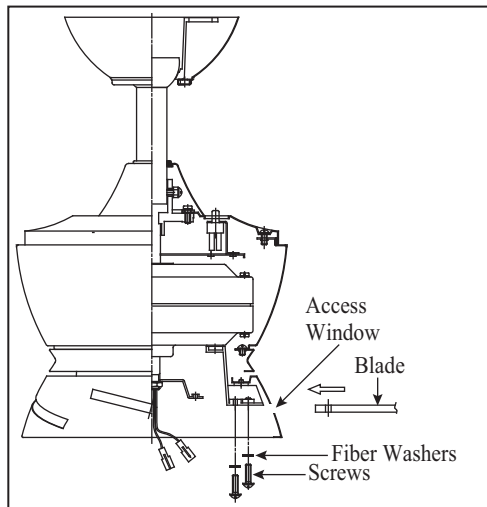

Figure 16
1. Rotate motor until holes become visible through the motor access window. Align the holes from the blade to the holes from the motor and secure in place with screws and fiber washers provided. (Fig. 16)